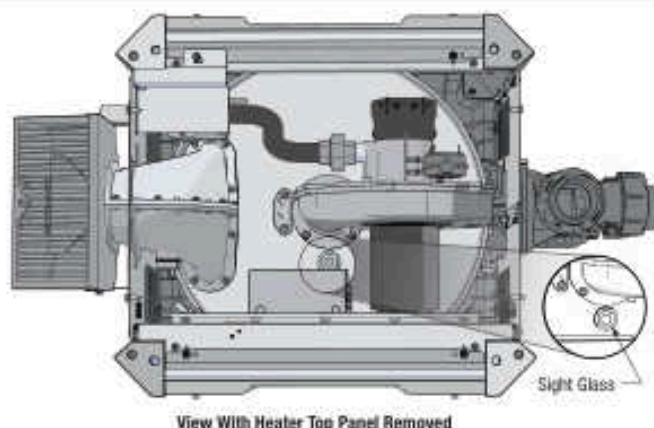

Figure 35. Remove Heater Top to View Sight Glass
- Visually check the main burner flame. Remove the top of the heater to inspect the sight glass. See Figure 35.